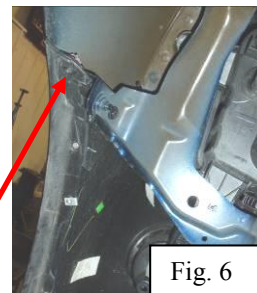

Fig. 6
7. Use a 7mm socket to remove the bolt attaching the bumper to the fender (Fig. 6).